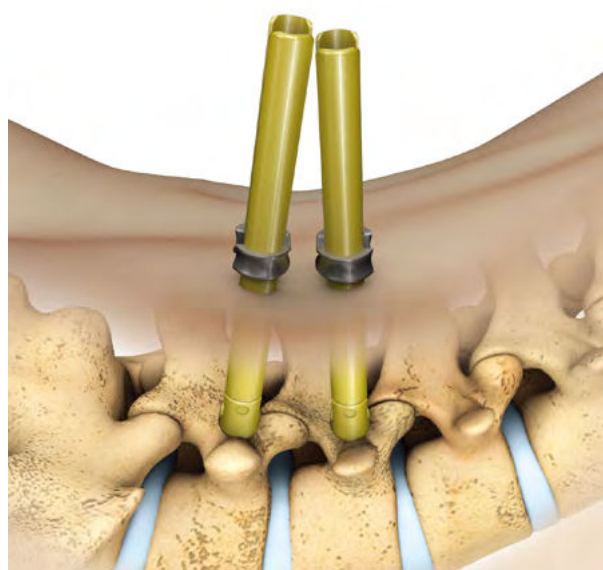

Figure 19
- C. Pull upward on the Cannulated Screw Driver while ensuring the Ring stays on (Figure 19).